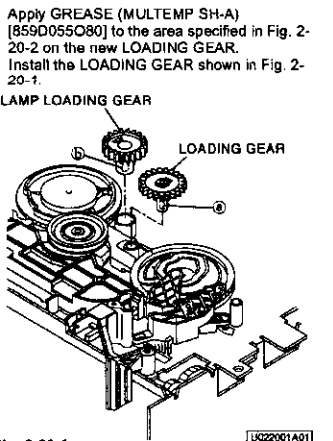

Fig. 2-20-1
- 1 Unfasten the catch (a) on the surface of the LOADING GEAR shown in Fig. 2-20-1 with tweezers, etc. to remove the LOADING GEAR.
- 2 Unfasten the catch (b) on the surface of the LAMP LOADING GEAR shown in Fig. 2-20-1 with tweezers, etc. to remove the LAMP LOADING GEAR.
- 2 Install the LAMP LOADING GEAR shown in Fig. 2-20-1.